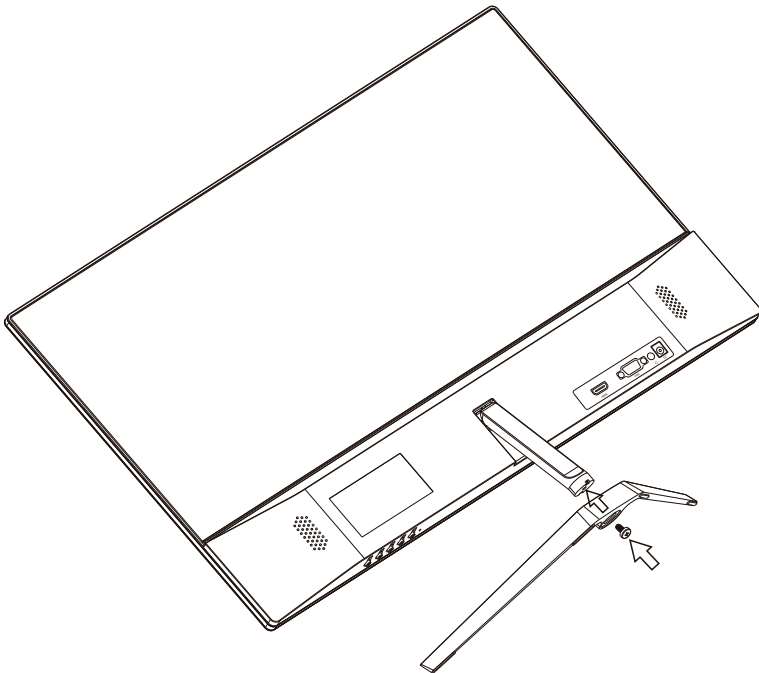

Fig.1
1. Put the base into the support as per the direction of arrow and fasten one screw (Fig. 1);